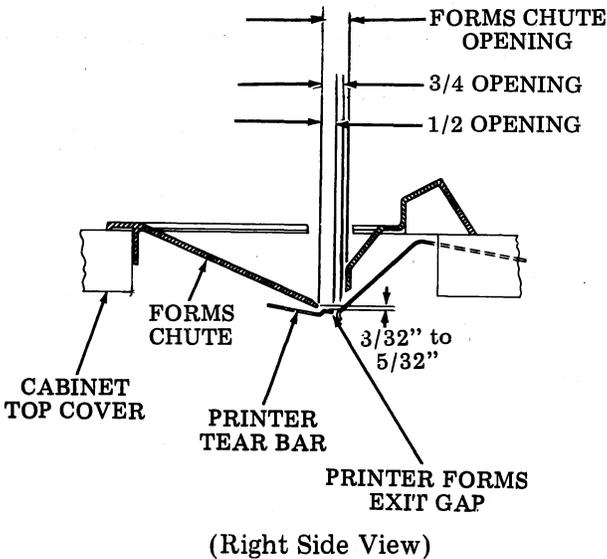

Fig. 59
- ⑤ When adjustment is required, move the printer rail assembly frame forward or rearward so that the printer forms exit gap is located half to three-fourths of the way back in the forms chute opening (as gauged by eye). Tighten the mounting screws of ④. See Fig. 59.